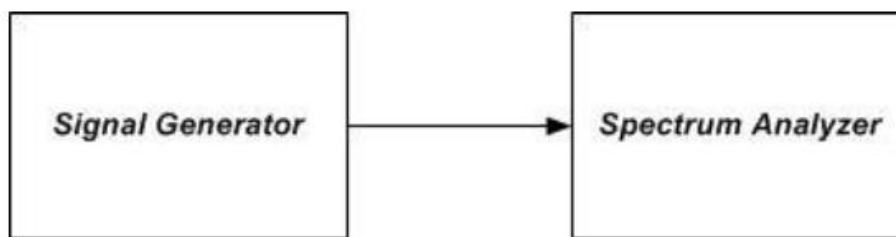

Figure 10 – Test setup for measuring characteristics of test signals used for subsequent EUT occupied bandwidth testing
- a) Connect the test equipment as shown in Figure 10 to firstly measure the characteristics of the test signals produced by the signal generator.
- j) Connect the test equipment as shown in Figure 10, with the uplink output (donor) port connected to the spectrum analyzer, and the server port connected to the signal generator.
- l) Connect the test equipment as shown in Figure 10, with the downlink output (server) port connected to the spectrum analyzer, and the donor port connected to the signal generator.